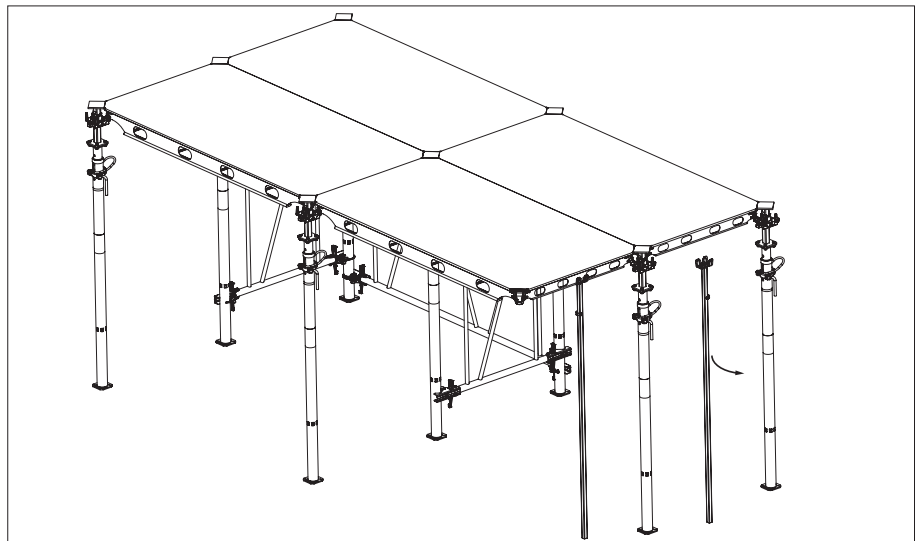

Fig. A5.14
- 7 Once the prop is set into position, the first shuttering aid can be removed while the second shuttering aid supports the panel further. (Fig. A5.14)